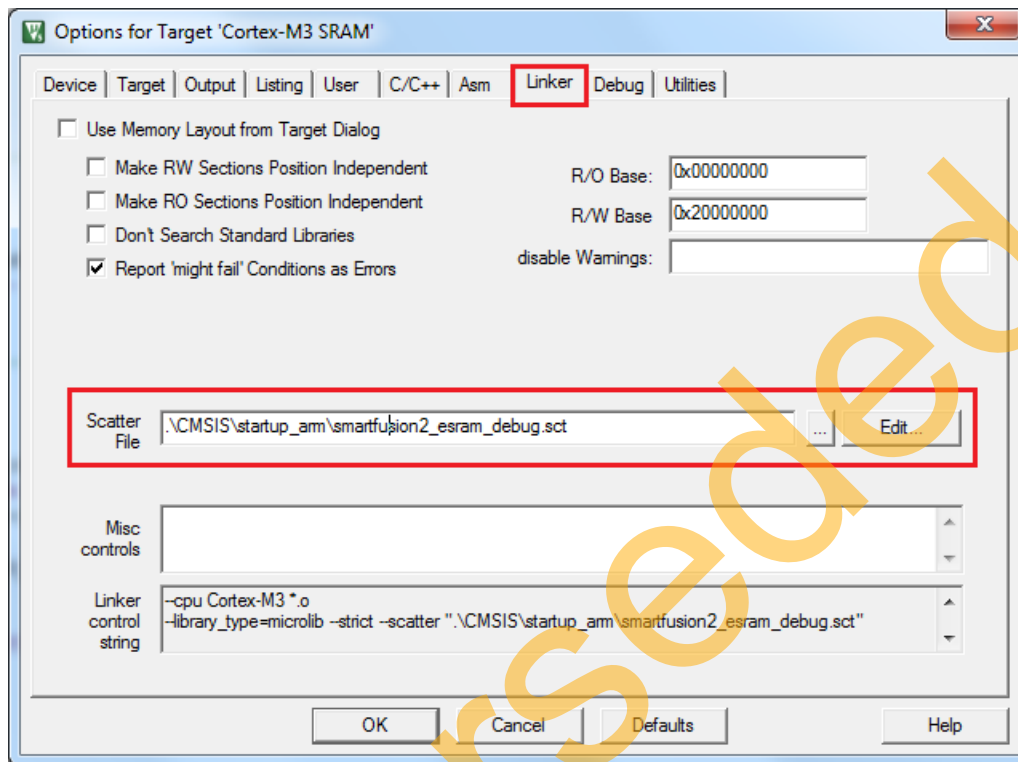

Figure 30 • Target Options - Scatter File
12. Click the **Linker** tab and navigate to the sf2_spi_flash_keil_liberov11p4_tu_dfLiberoProject\Keil\CMSIS\startup_arm folder to select the **Scatter File** as smartfusion2_esram_debug.sct, as shown in Figure 30.